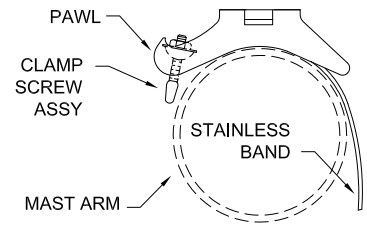

Figure 1
1. Thread all three bands into the Clamp and place the Clamp on top of the mast arm as shown in Fig. 1. Place a screw assembly (Fig. D) in the center pawl of the Clamp body, as shown in Fig. 1, with the Hex Nut flush with the end of the Clamp screw threads. Start Step 2 with the center band